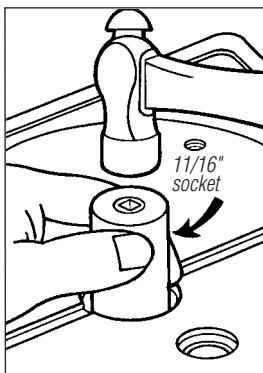

Figure 28
Step 3: Lay trap on flat surface with handle toward you. Press new shaft seal with flat side down into opening by hand. To seat, tap seal with 11/16" socket. Seal is properly seated 1/8" down from top edge (**Figure 28**). Apply petroleum jelly or grease to inside edges of seal.